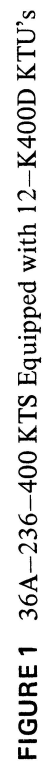

FIGURE 1 36A–236–400 KTS Equipped with 12–K400D KTU's
3.1 The 36A KTS (figure 1) consists of a basic mounting package, designated a Key Service Unit (KSU), which consists of a mounting frame, four mounting assemblies, a power supply, two wiring harnesses and a cover.